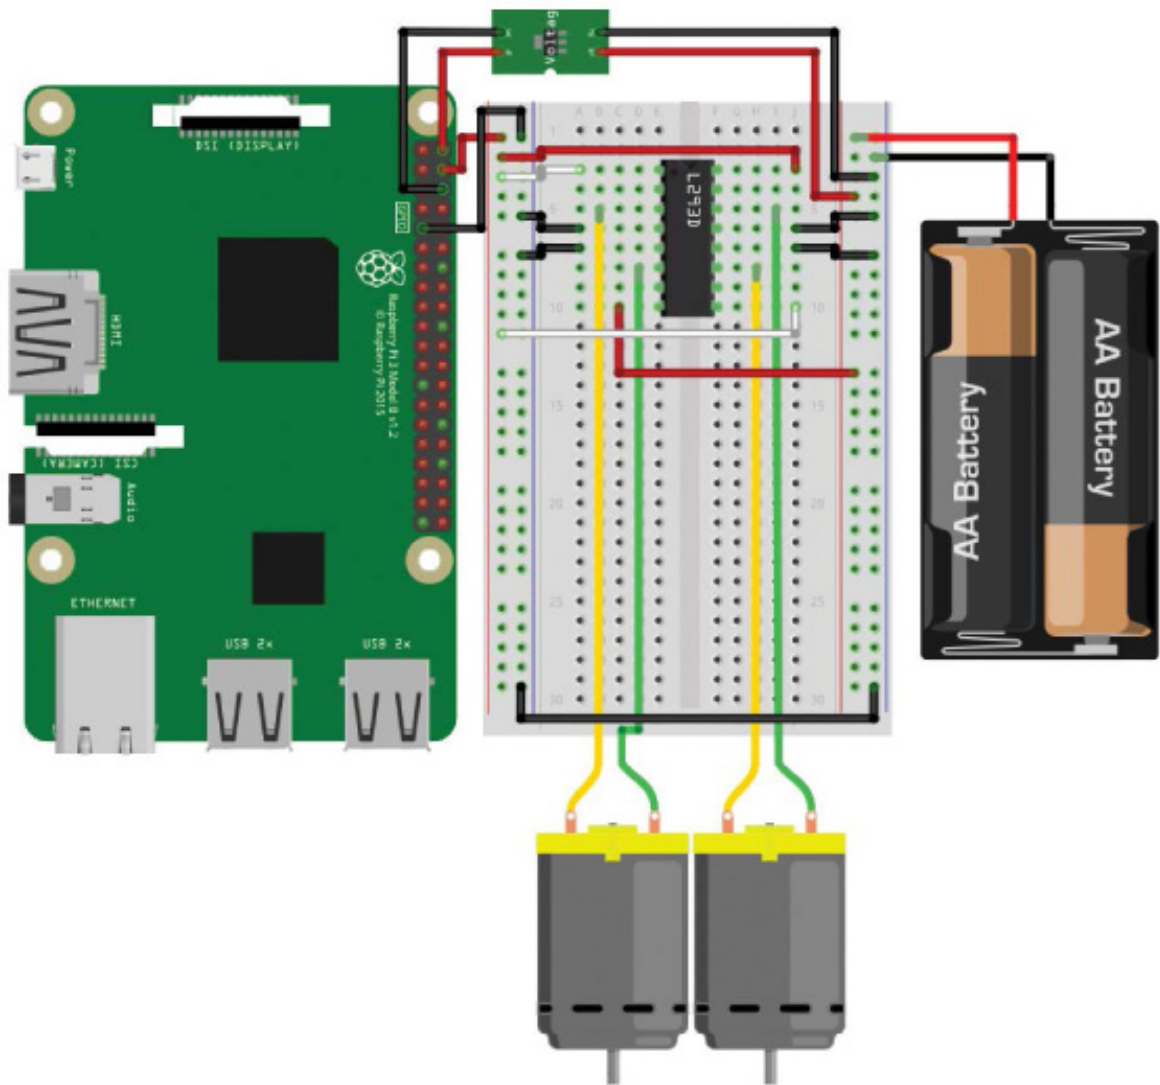

FIGURE 3-27 Both motors wired up to the outputs of the L293D
8. Take one motor and connect one of its wires to pin 3 (Output 1) of your L293D chip, and the motor's other wire to pin 6 (Output 2). Then take your second motor and connect the first of its two wires to pin 11 (Output 3) and the second to pin 14 (Output 4), as shown in Figure 3-27.